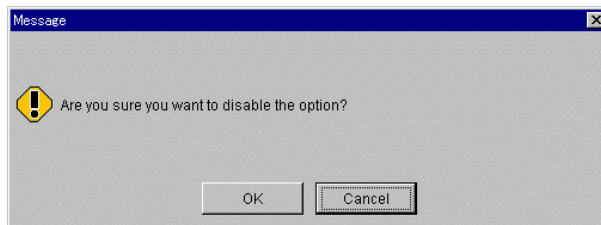

Figure 4.1 Enable/Disable Confirmation Request Message
6. In the resulting message, click **OK** button (see Figure 4.1).